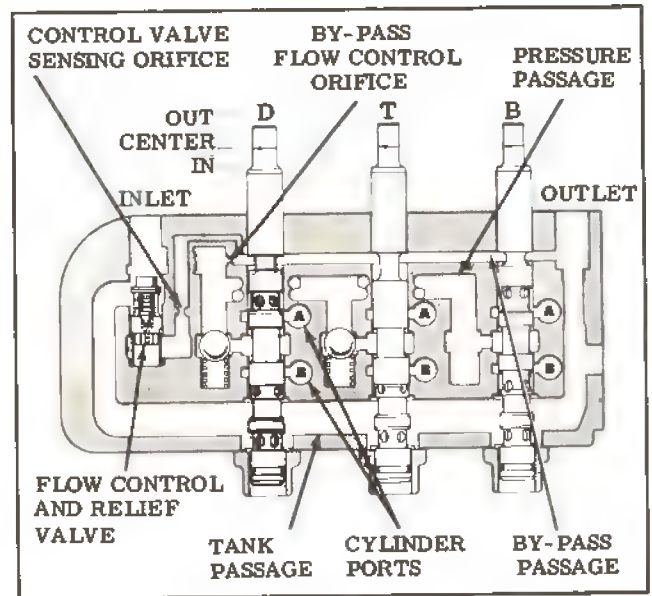
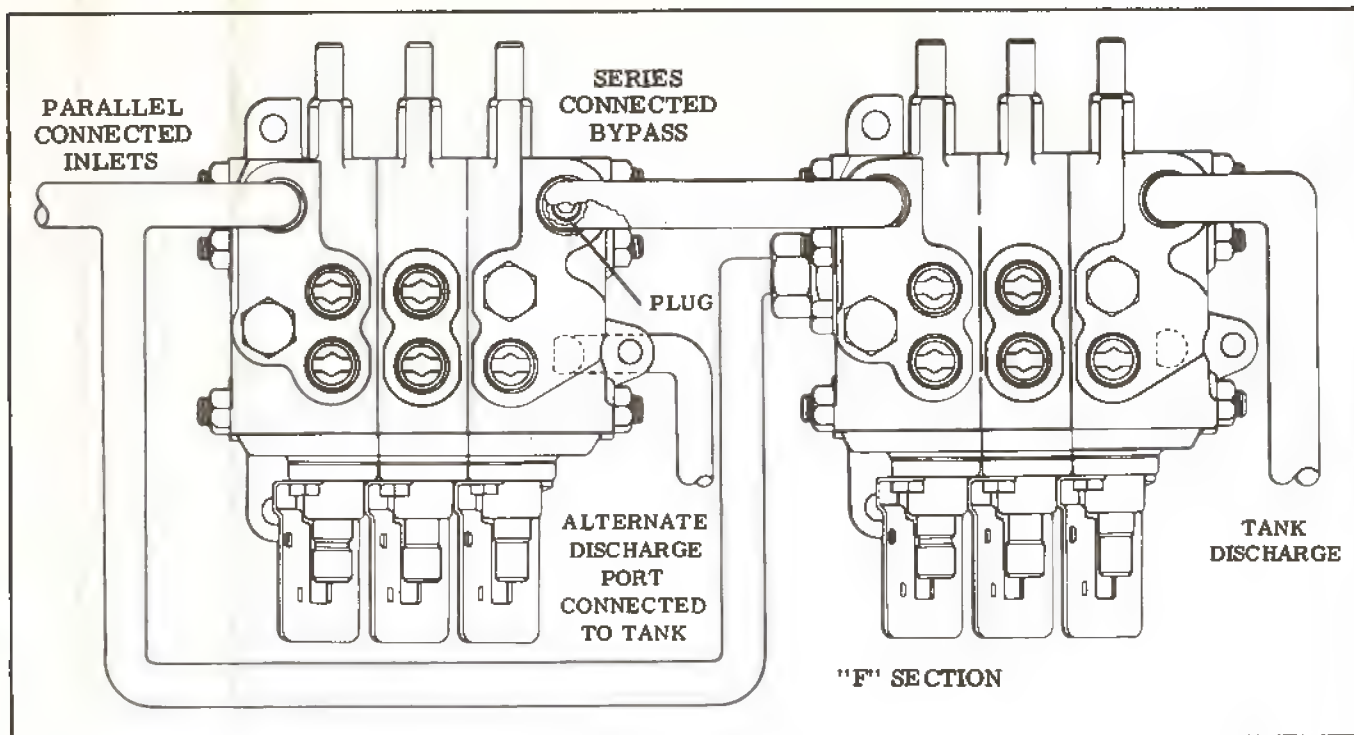

Figure 2
Figure 10
Figure 2 is a schematic illustration of a three section valve, showing the inlet and outlet ports and the by-pass, pressure and tank passages. The pressure passage is used to carry fluid to the cylinder ports when the spools are shifted. The by-pass passage permits flow directly to the outlet when the spools are not being operated. The tank passage also carries fluid to the outlet; either return flow from the cylinder ports or fluid diverted past the flow control and relief valve.
(a) **Flow Control** - Figure 2 shows the valve operation in neutral with flow in excess of seven gpm. Flow across the by-pass orifice results in a pressure drop. The decreased pressure is sensed at the spring end of the valve sub-assembly through a sensing orifice. The slightly higher pressure at the other end of the valve permits it to shift down, diverting excess flow to the reservoir passage. With flow less than seven gpm, there would be negligible pressure drop across the by-pass orifice. Then the control valve would be held closed by the large spring and all flow would be through the by-pass passage.
7. **Tandem Operation** - Tandem operation permits operation of two banks of valves from the same pumping source. An internal plug in the outlet section of the first bank (Figure 10) separates the by-pass passage from the tank passage. Cylinder exhaust oil is returned to tank via the alternate discharge port, and by-pass oil is directed out the primary discharge port to the by-pass port of the bank.
In Figure 10, either bank can be operated separately or both simultaneously. This is possible because of the tandem by-pass connection from the inlet connection of the first bank to the F inlet connection of the second bank. If neither bank is operating, part of the fluid flows through both by-pass passages directly to reservoir. The balance is diverted through the tank passage of the first section as shown in Figure 2.
1. Port connections for tandem series operation are shown in Figure 10.
2. The outlet section of the first bank must be an "E" section which is equipped with a plug (see Figure 10) to block the primary discharge port from the reservoir. The alternate discharge port must be connected to the reservoir.